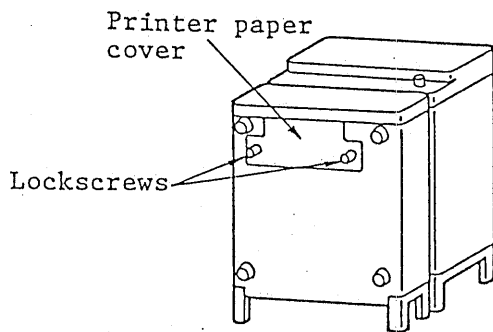

Fig. 14.3
3) Position the FAE2000 upright. Loosen by hand two lock screws that secure the printer's paper cover. Detach the cover (Fig. 14.3).